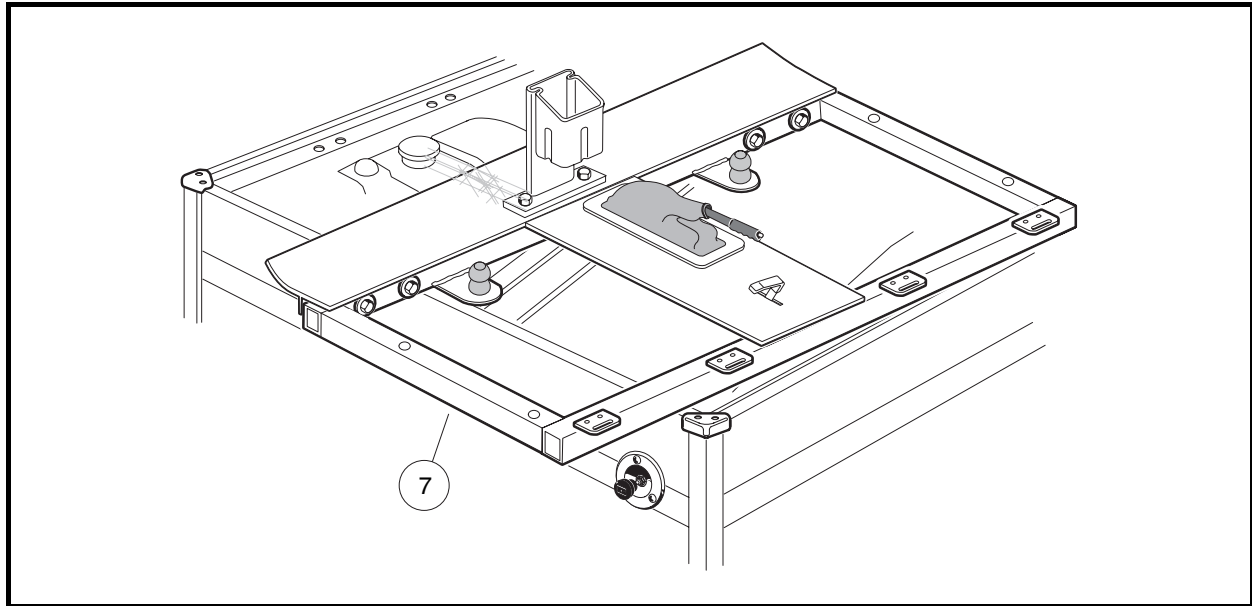

Figure 12-32 Turf 272/Carryall 272/XRT 1200 Battery Removal
- 3.3. Carefully lift and rotate the seat support 90° counterclockwise and allow it to rest on the vehicle body as illustrated (**Figure 12-32, Page 12-31**). **See following NOTE.**